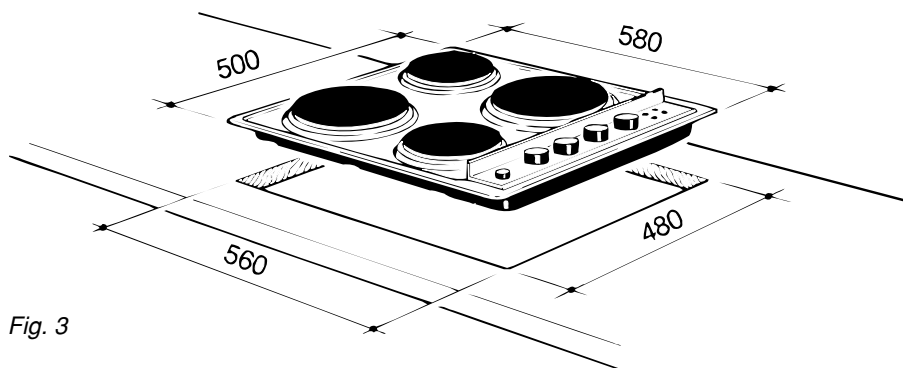

Fig. 3
1. The hob requires a space in the kitchen work surface as shown in fig 3.